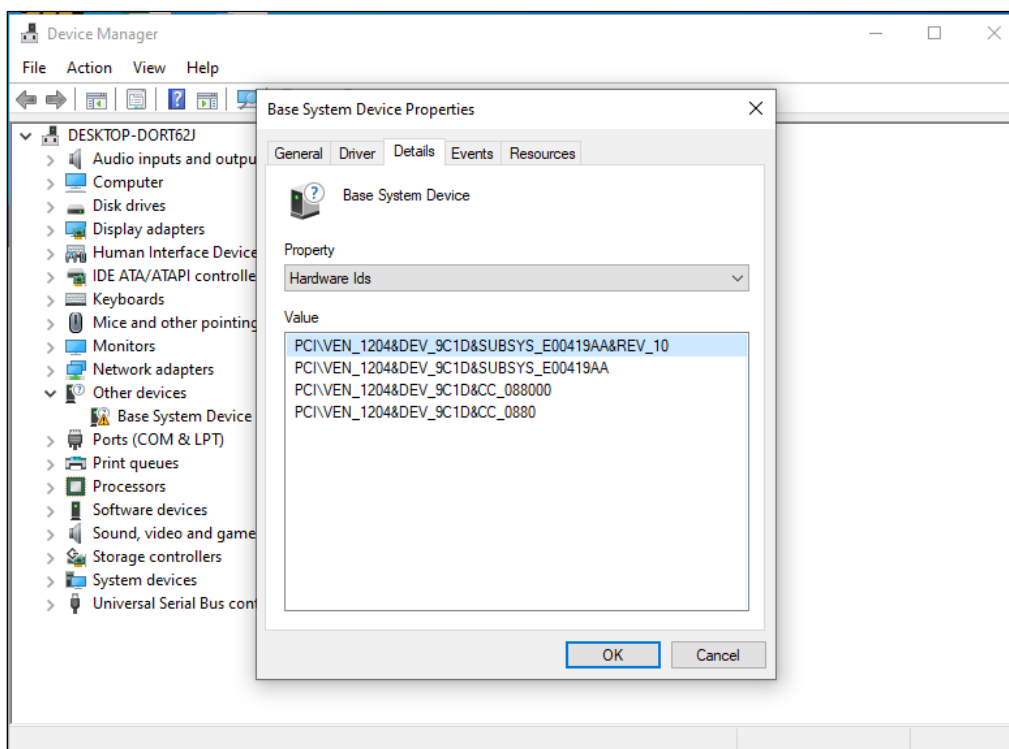

Figure 5.37. Hardware IDs of Basic Demo Device for CrossLink-NX
3. The information in **Hardware IDs** is needed to install the correct driver for the corresponding device. For CrossLink-NX, the Hardware IDs of the Base System Device for the Basic Demo is `PCI\VEN_1204&DEV_9C1D&SUBSYS_E00419AA` as shown in Figure 5.37.